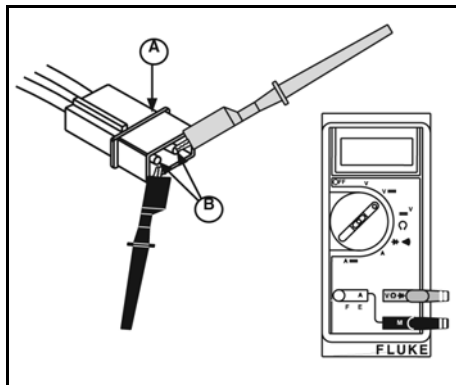

Figure 4
2. With key switch OFF, disconnect solenoid wiring connector (A, Figure 4).
3. Attach meter test leads (B) to pins inside wiring connector.